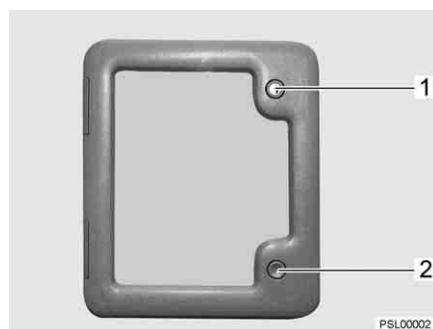

Fig. 5 External flap Thetford cassette
Opening: ■ Insert key into locking cylinder (Fig. 5,1) of the push-button lock and turn a quarter turn in an anticlockwise direction.
■ Press both push-button locks (Fig. 5,1 and 2) simultaneously with your thumbs and open the external flap.
- Insert key into locking cylinder (Fig. 5,1) and turn a quarter turn in a clockwise direction.